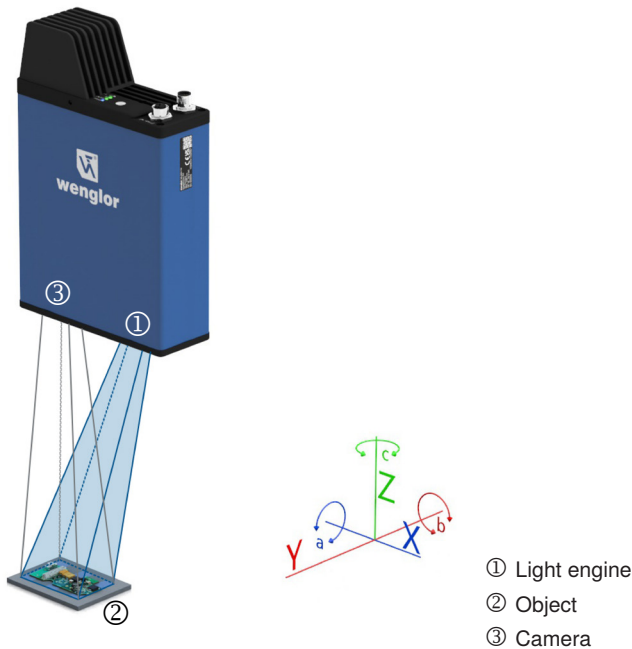

Fig. 1: Function principle of a 3D sensor
The underlying functional principle is based on triangulation (see Fig. 1). A special light module (1) projects a sequence of patterns onto the object (2) and a camera (3) captures the reflected light. This arrangement forms a triangle with a fixed base between the camera, light module and object.